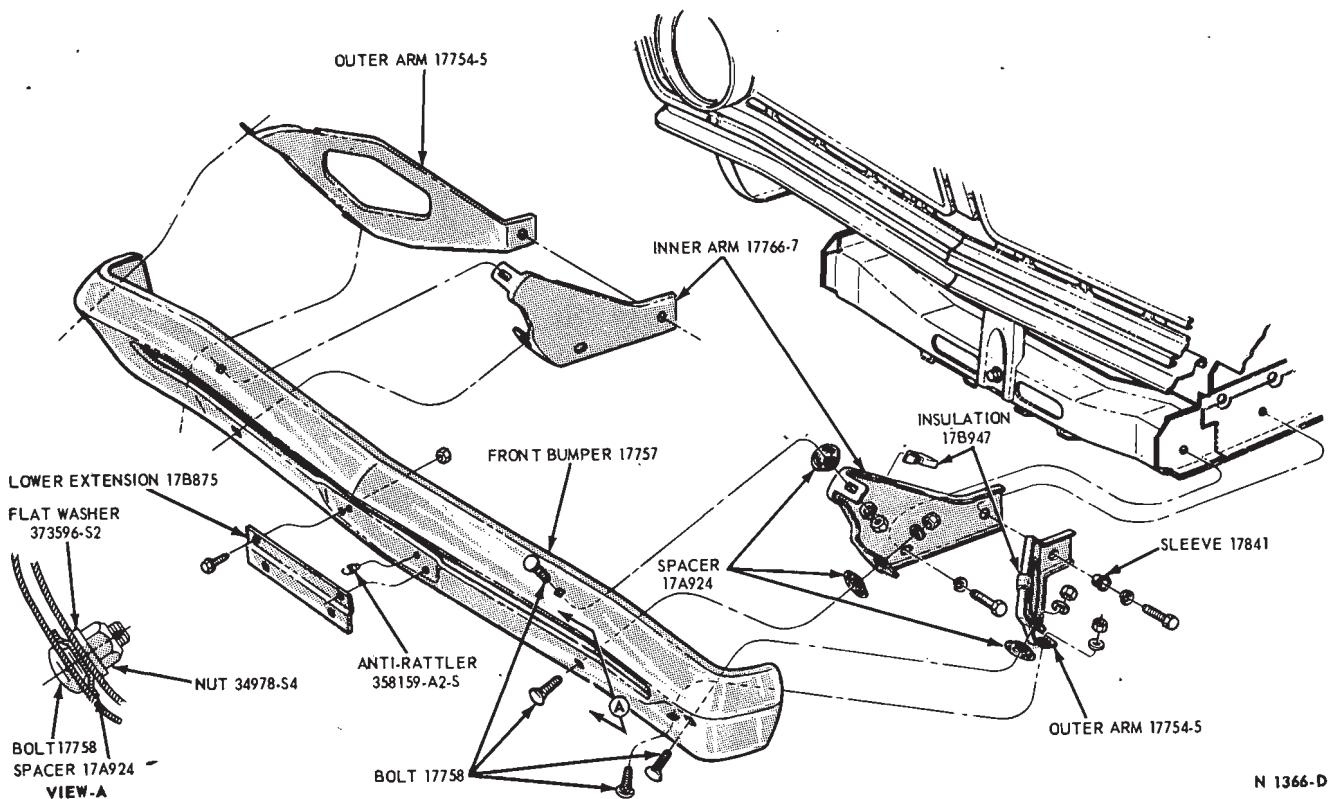

FIG. 7—Front Bumper Installation—Falcon
2. Remove eight bumper attaching bolts and nuts and remove the bumper from the vehicle (Fig. 7).
3. Remove the license plate, license plate bracket and two anti-rattlers from the bumper (Fig. 7).
2. Position the bumper to the bumper and the bumper arms as shown in Fig. 7. Then, install the eight bolts, washers and nuts.